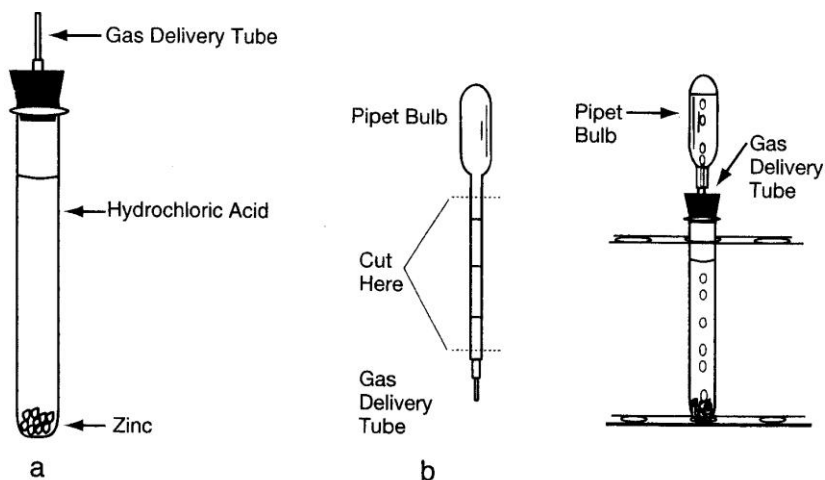

Figure 1. Constructing a Gas Generator
1. The gas generators consist of a small test tube, a rubber stopper, a gas delivery tube, and a gas collection bulb. See Figure 1.
3. Place the gas delivery tube ends into the tops of rubber stoppers as shown in Figure 1.